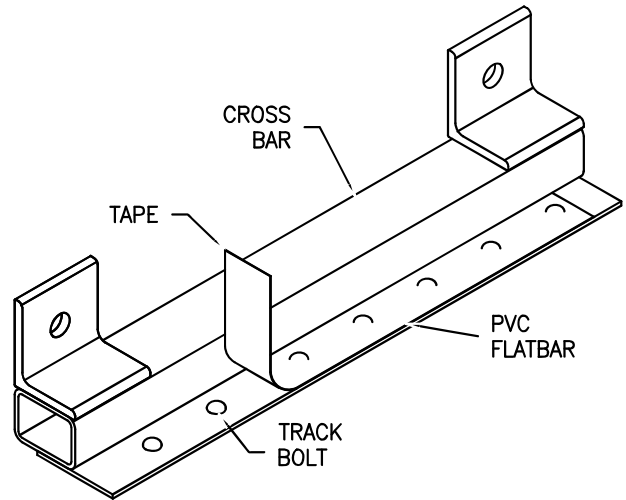

FIG. 6
- b. Tape backside of flat bar to hold track bolts in place (Fig. 6).